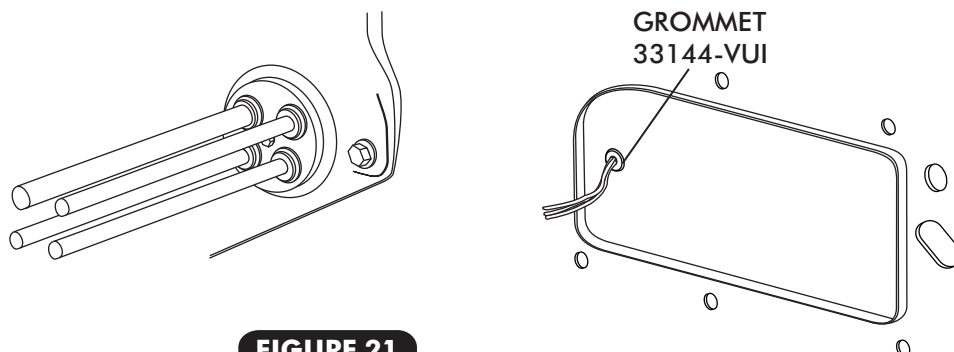

FIGURE 21
- ☐ ROUTE A/C WIRES THROUGH 3/8" GROMMET AS SHOWN IN FIGURE 21 (12 VOLT/ GROUND/ BINARY SWITCH/ HEATER VALVE).